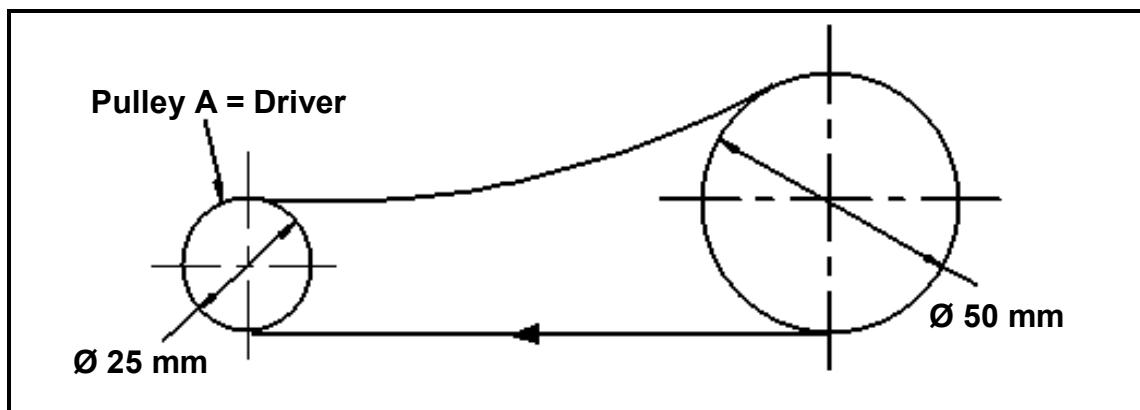

FIGURE 1.3
1.17 What is the velocity ratio of the pulley system in FIGURE 1.3 if pulley A is the driver?